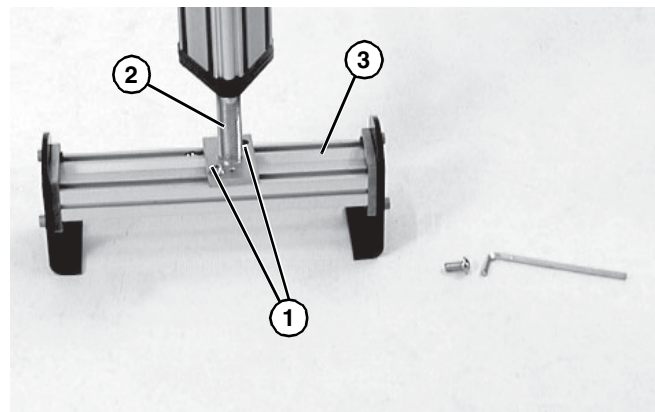

Figure 15
- Align the screw holes (**Figure 15, item 1**) of the stand top screw end plate (**Figure 15, item 2**) with the hex nuts in the t-slots in the crossmember tube (**Figure 15, item 3**).